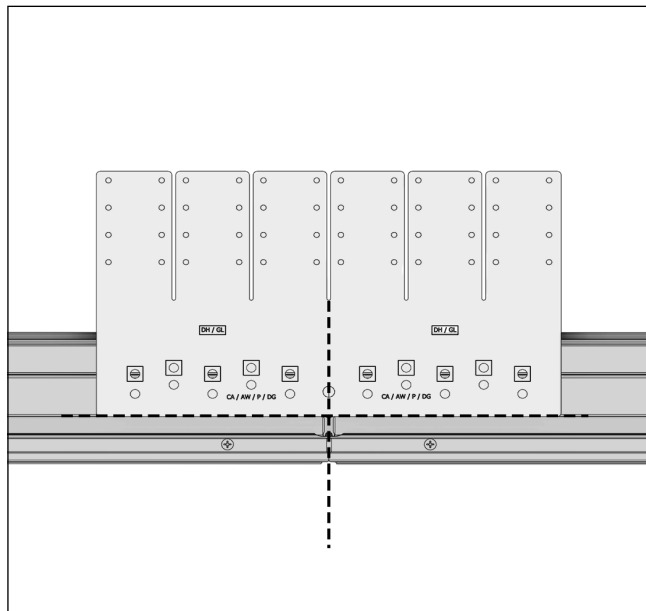

Figure 4 Center and align full gusset
3. Center and align the bottom edge of the full gusset plate with the edge of the T-slot at all mull joints. If using a mounting flange, the gusset plate can rest on the flange for alignment. See Figure 4.